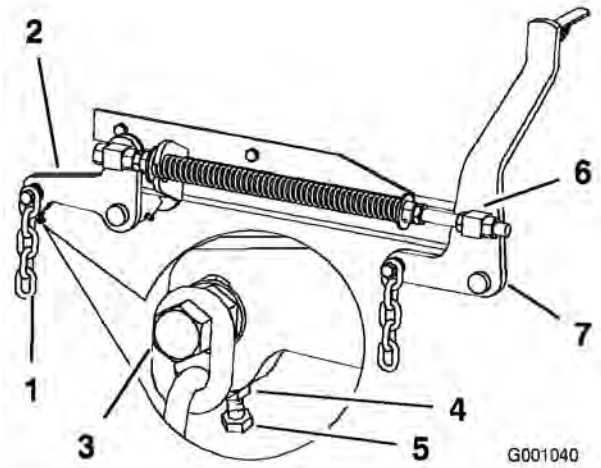

Figure 75
7. If the measurements at positions **B** or **C** are not correct, loosen the bolt attaching the rear chain to the rear support arm (Figure 75).
8. Loosen the jam nut under the rear support arm and adjust the adjustment bolt to get a measurement of 3-1/8 to 3-1/4 inches (Figure 75).
7. Loosen the front swivel jam nuts, at the front of the right and left swivels, approximately a 1/2 inch (13 mm) (Figure 75).
8. Adjust the lift nuts on both the left and the right side of the machine to achieve 1/4 to 3/8 inch (6 to 10 mm) lower in front at **A** than in the rear at **B** (Figure 75).